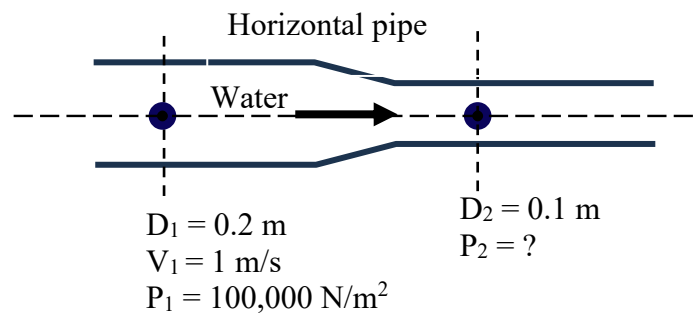

Figure Q9
- 9 In Figure Q9, what is the pressure downstream of the flow reducer, P_2 , if energy losses in flow can be neglected?